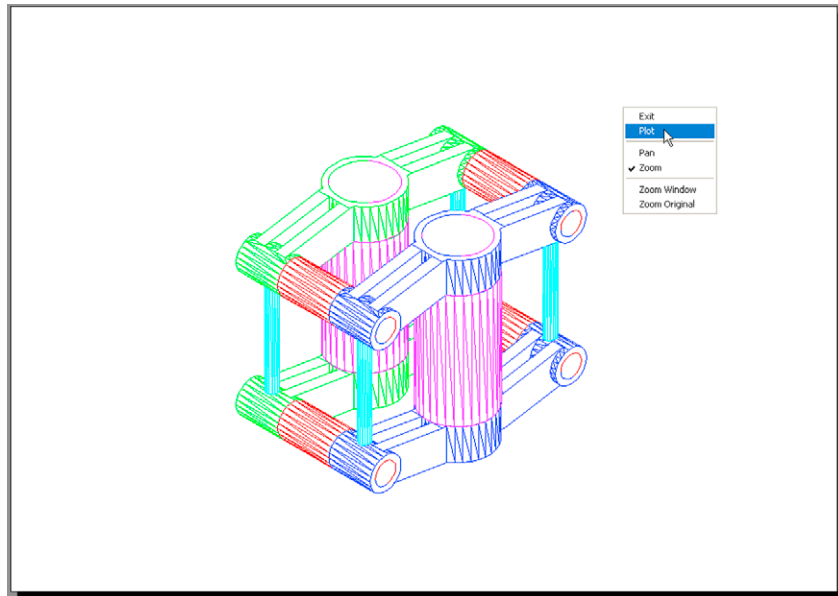

Fig. 19.12 Third example – Printing/Plotting
### Third example – Printing/Plotting (Fig. 19.12)
4. If satisfied with the preview (Fig. 19.12), *right-click* and *click* on **Plot** in the menu which appears. The drawing plots.
## Polygonal viewports (Fig. 19.12)